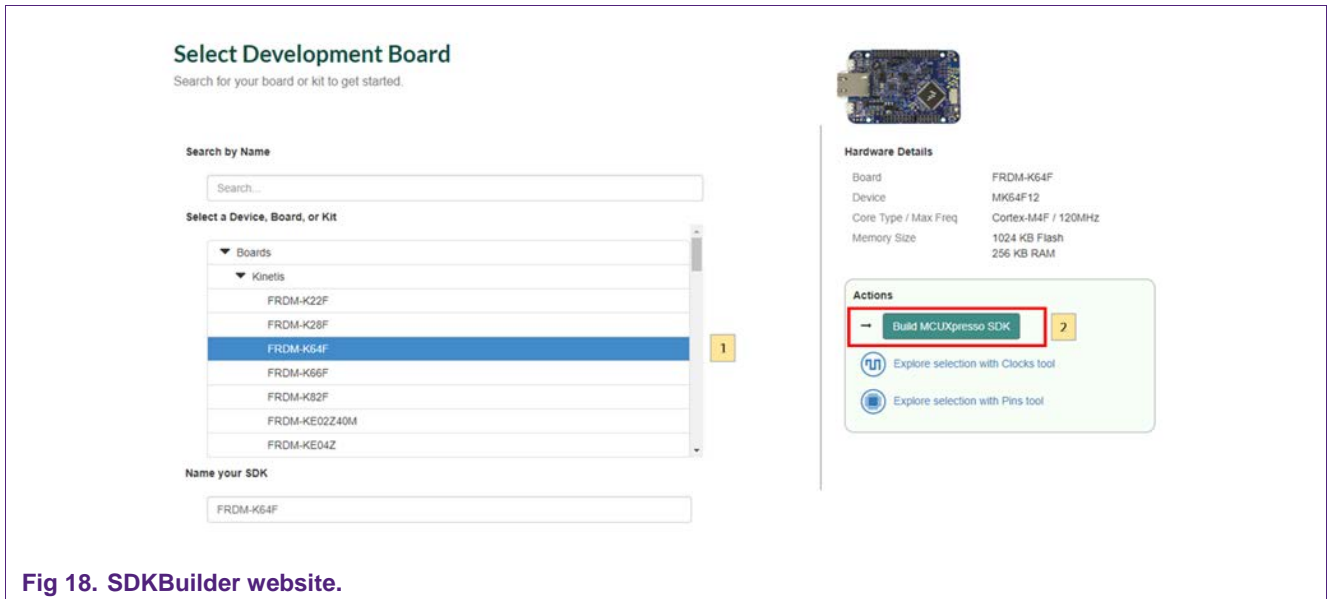

Fig 18. SDKBuilder website.
1. Select your Kinetis FRDM board and click on '*Build MCUXpresso SDK*'; in this case the selected board is the *FRDM-K64F* (Fig 18).